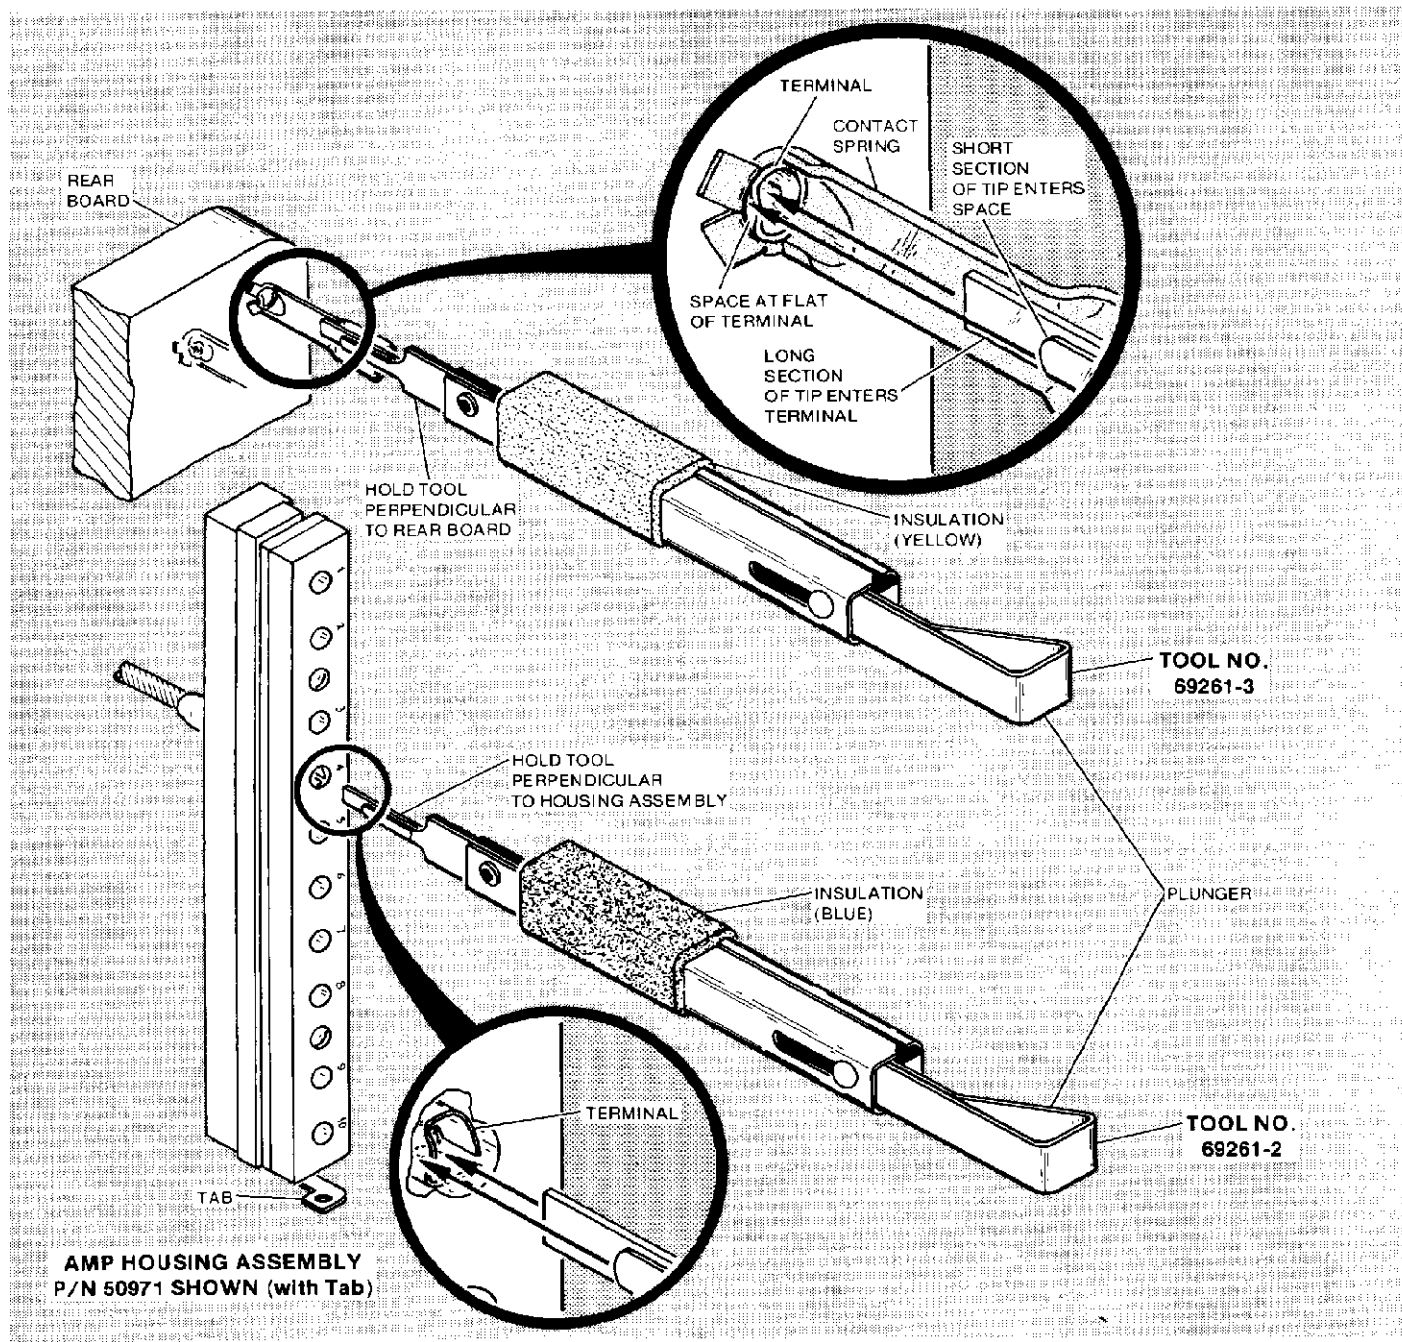

Figure 1
- (a) Hold tool Nos. 69261-3 or 69261-2 between thumb and forefinger with the plunger resting against palm of hand. Hold tool perpendicular to rear board or housing assembly. See Figure 1.
- (c) Insert tip of tool (longest of two sections) inside of terminal. See Figures 1 and 3.
- (d) As long section enters terminal, short section is inserted into space between flat side of terminal and inside surface of contact spring or housing assembly. See Figures 1 and 3.